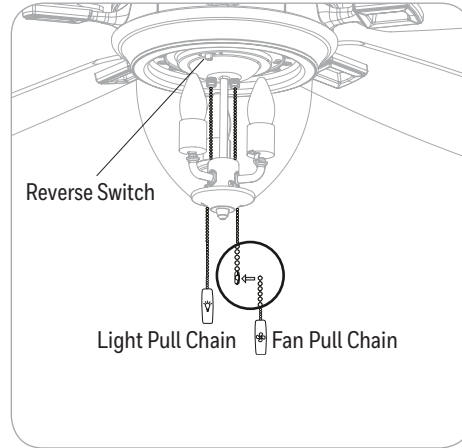

Figure 5.11
11. Attach the pull chain extensions to the pull chains. **Note:** When facing the reverse switch, the light pull chain is on the left and the fan pull chain is on the right (Figure 5.11).